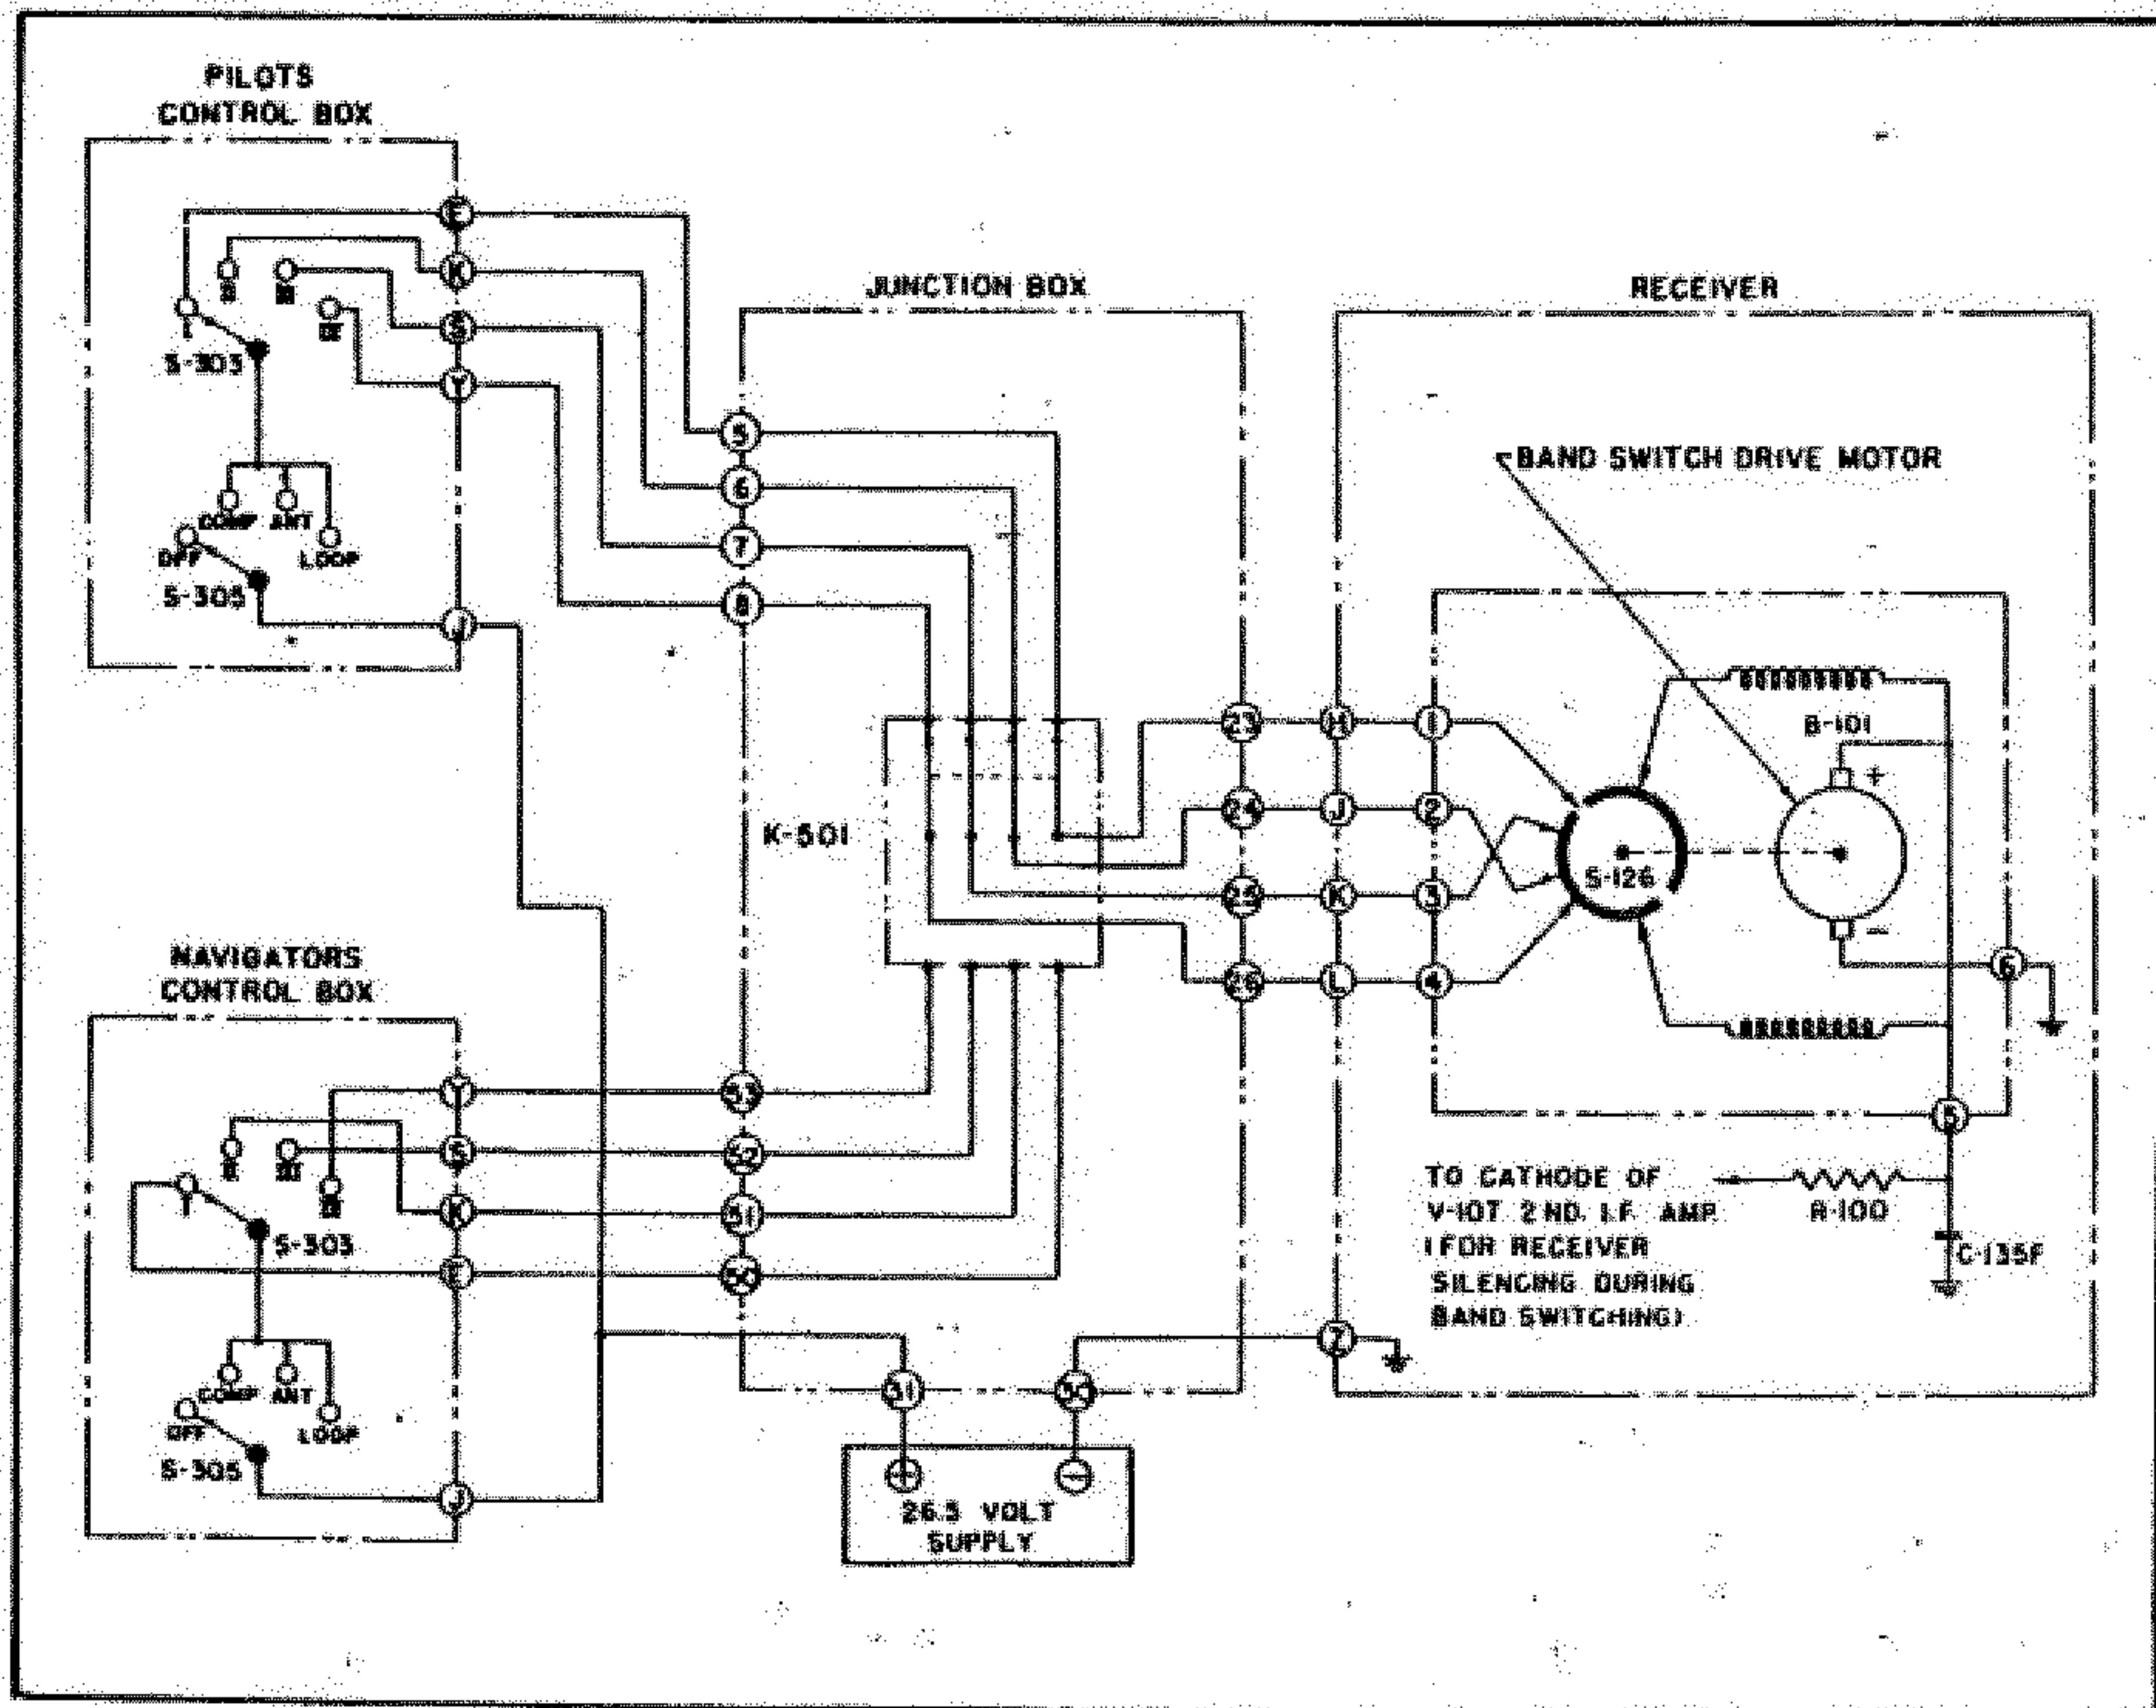

Figure 4-10. Functional Diagram—Band Switch Drive Circuits
b. BAND-SWITCH CIRCUIT. (See figure 4-10.)
(1) B-101, which operates the band-switch mechanism, is a series motor and will run if either field is connected to 26.5 volts positive; its direction of rotation will depend upon which field is used.
(2) The arm of band switch S-303 is energized from the battery supply through the indicated section of S-305.
(3) Assume that switch S-303 is turned to some other band, for example, to position II (Band 2). By tracing the circuit, it can be seen that one of the motor fields (the lower one in this drawing) is energized through one segment of band follow-up switch S-126.
(4) The motor will run, operating the band-switch mechanism. The segments of switch S-126 will rotate with the mechanism, until the gap, now shown at the contact for band 1, has rotated to the contact for band 2. When the gap reaches the band 2 contact, the circuit is broken and the motor stops.